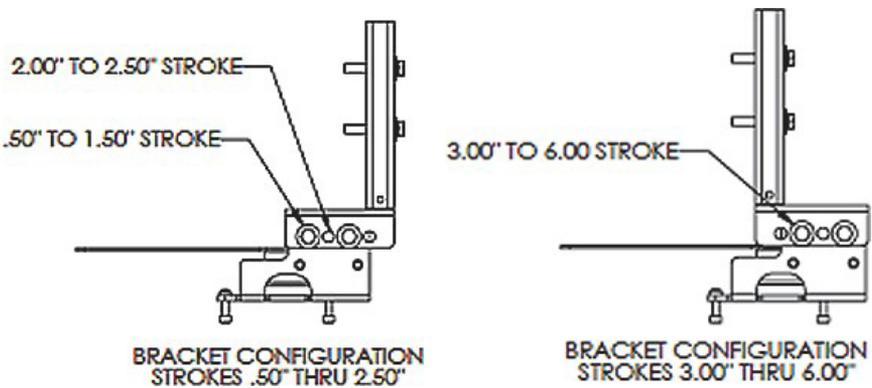

Figure 20 - Bracket Configuration Strokes .5 - 2.50" and 3-6"
4. Mount take-off bracket to stem block at angle which keeps turnbuckle assembly parallel to stem (Figure 20) using: